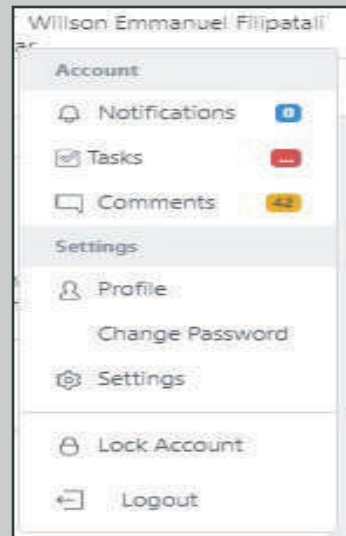

Figure 9: Quick links
- ii) The system provides access for user to perform action including change password, logout, View profiles etc as shown in Figure 9.